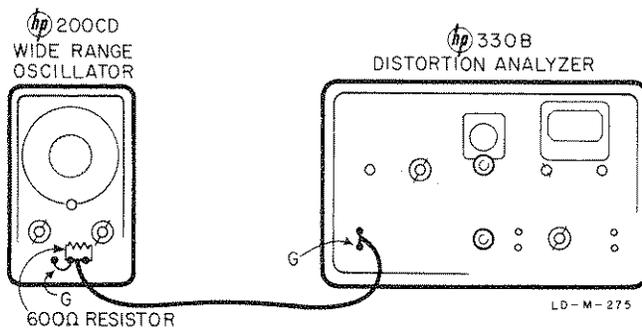

Figure 5-6. Distortion Test Setup
a. Connect the Model 200CD to the distortion analyzer as shown in figure 5-6.
a. Connect the Model 200CD to a distortion analyzer as shown in figure 5-6.